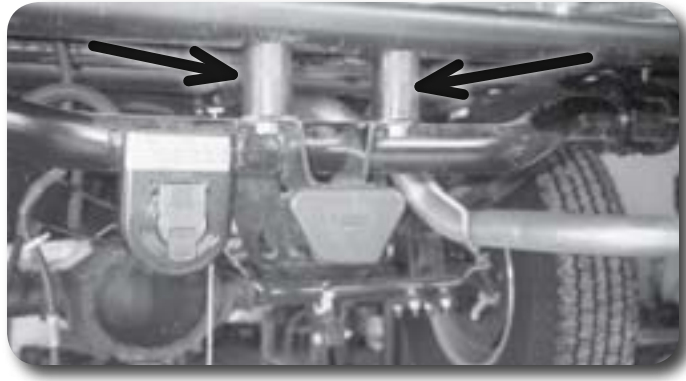

Figure 31
93. If equipped with a factory receiver hitch, install the 2" diameter body spacers between the bumper and hitch. Fasten using two 14mm x 110mm bolts and two 1/2" USS washers Figure 31.